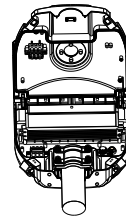

Figure 15
Step 4: Pass the wiring through the driver box, secure the round tube fixing buckle, install the product onto the round pipe, and then fasten the fixing buckle (Figure 15).